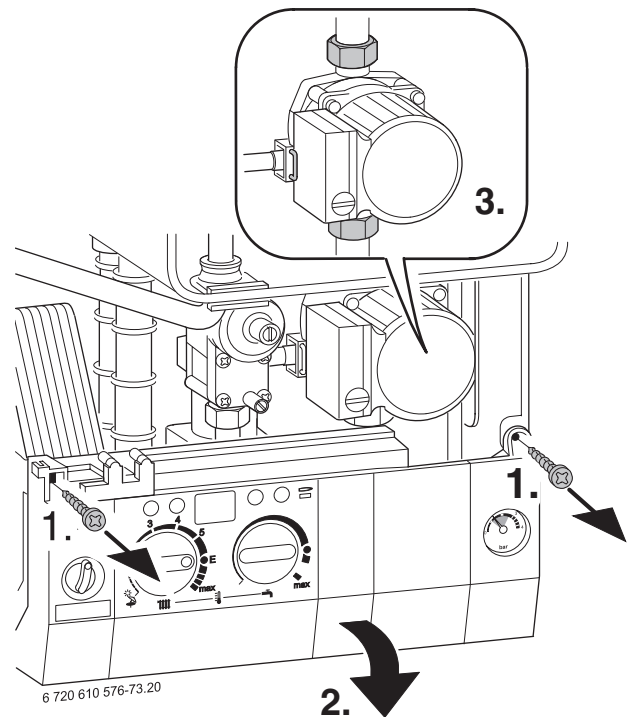

Fig. 63
- Remove two switchbox fixing screws (1.). Refer to fig. 63.
- Unscrew the pump union nuts (3.). Refer to fig. 63.
- ▶ Lower the control panel. Refer to fig. 63.
- ▶ Lower the facia. Refer to fig. 63.
- ▶ Undo the top connection of the pump. Refer to fig. 63.